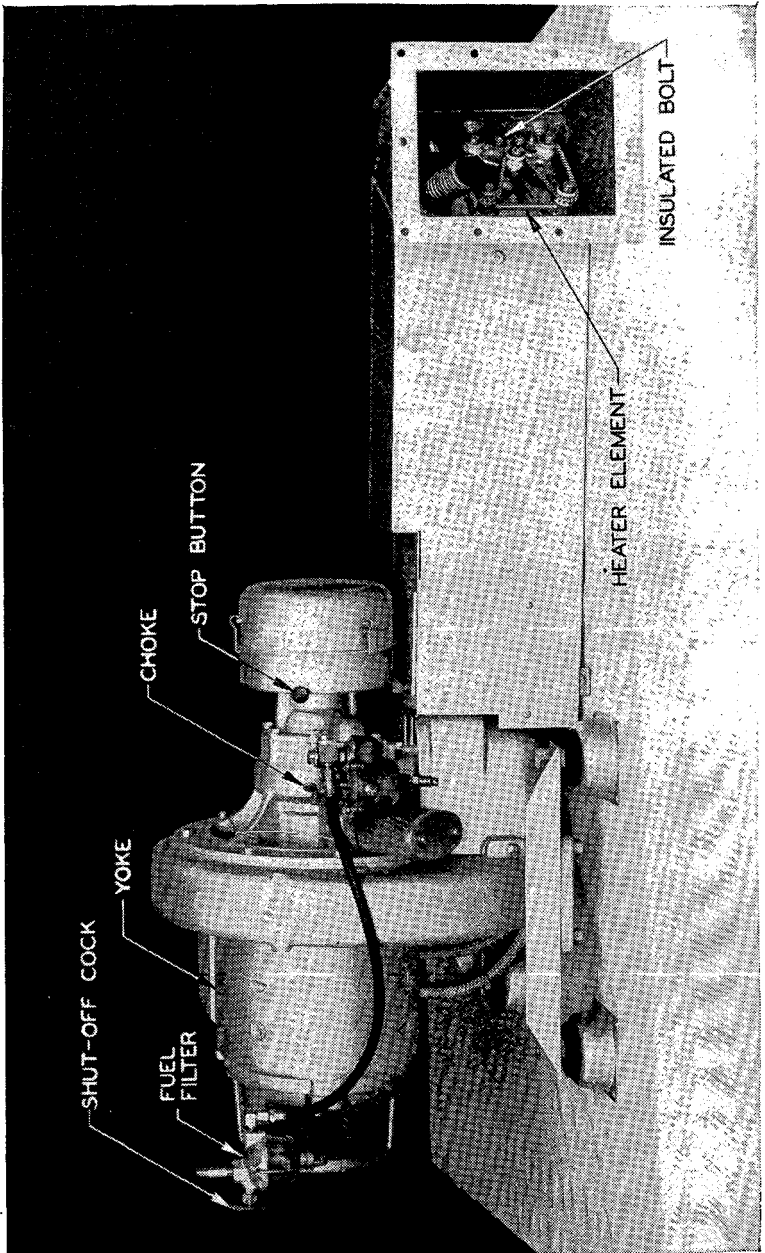

FIGURE 2.—Auxiliary generator model HHH-28—left side.
(2) Open shut-off cock on fuel filter beneath the fuel tank (fig 2). Full counterclockwise direction is open.
b. Cold weather starting—cold engine (below 50° F.).—(1) Close the carburetor choke (fig. 2). (The choke is open when the lever is against the stop pin.)
*e. To stop engine.—*Press the red stop button (fig. 2), and hold firmly until the engine stops. Close the fuel line shut-off cock beneath the fuel tank (fig. 2) (closed when in full clockwise position).
- (1) Fill tank with fuel and oil mixture.
- (2) Open shut-off cock.
- (3) Choke—if required.
- (4) Depress starting button or start manually.
- (5) Press red stop button for stopping.
- (6) Close fuel shut-off cock.